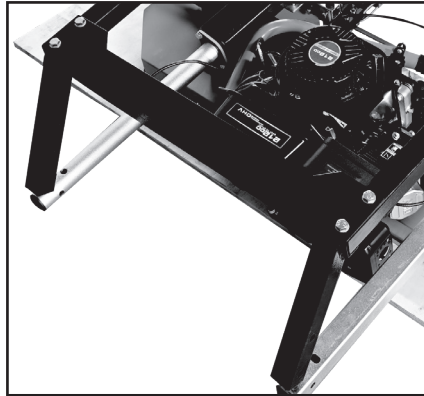

Fig. 25
Step 15: Install the Rear Carriage Crossbeam. Place the Rear Carriage Crossbeam onto the upright supports on the carriage base (Fig.25). Align the four bolt holes and insert the four M10x65 bolts, four M10 lock washers, eight M10 flat washers, and four M10 Hex Nuts. Do not tighten the fasteners completely.